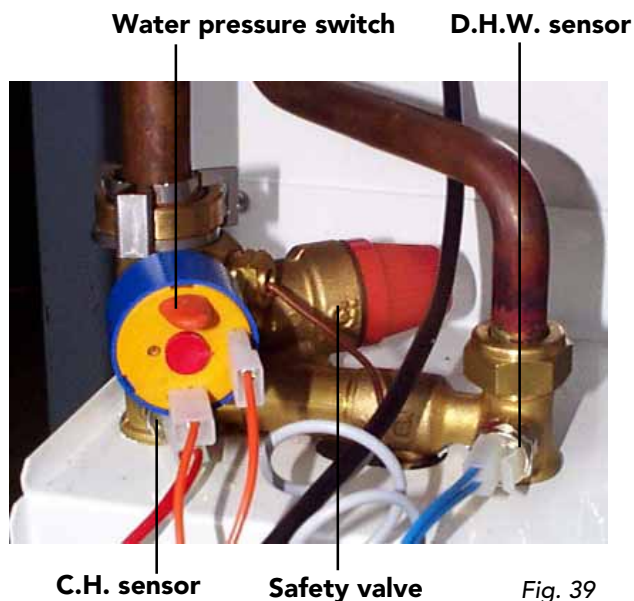

Fig. 39
7.07.1 D.H.W. temperature sensor or Central Heating Temperature Sensor (fig. 39)
- Identify the sensor from figure 39
7.07.2 Water Pressure Switch (fig. 39)
- Identify the switch from figure 39
7.07.3 Safety Valve (fig. 39)
- Identify valve from fig. 39